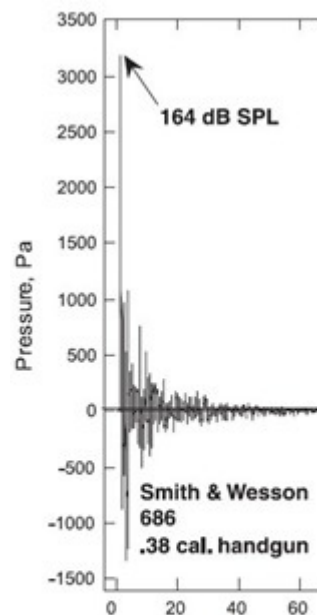

Figure 1. Example of impulse waveform from handgun.
*Impulse* noises are generally defined as sounds with short duration (less than 1 second) such as gunfire, explosions or the “pop” of a pneumatic nail gun. These sounds typically have an extremely fast onset and often reach very high sound pressure levels (SPL). In figure 1, for example, the sound of gunfire reaches a peak SPL of 164 decibels (dB) in the first few tenths of a millisecond then decays rapidly.